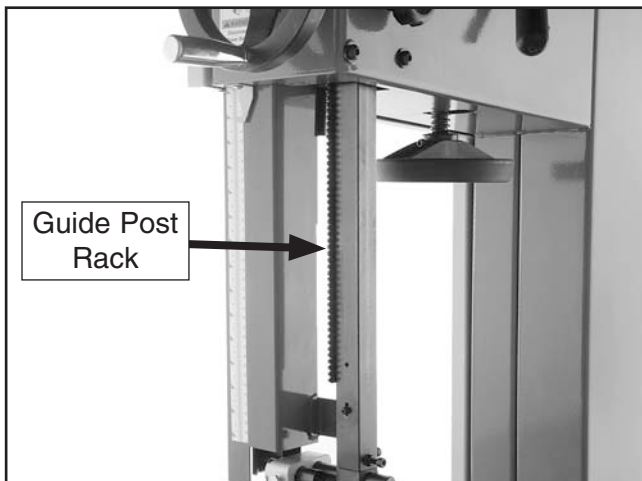

Figure 7. Guide post rack lubrication location.
3. Wipe off any existing grease and sawdust buildup on the guide post rack (see **Figure 7**).